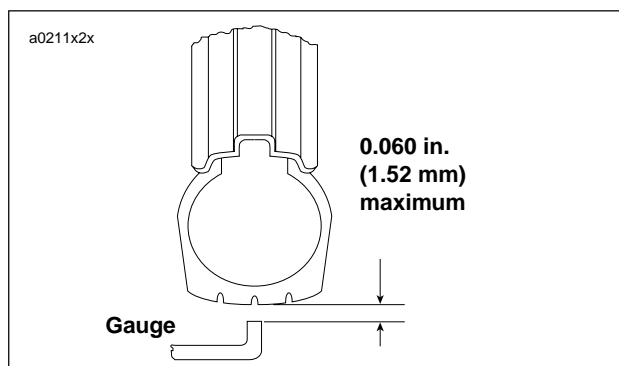

**Figure 2-23. Checking Tire Lateral Runout**
1. See Figure 2-23. Turn wheel on axle and measure amount of displacement from a fixed point to tire side-wall.